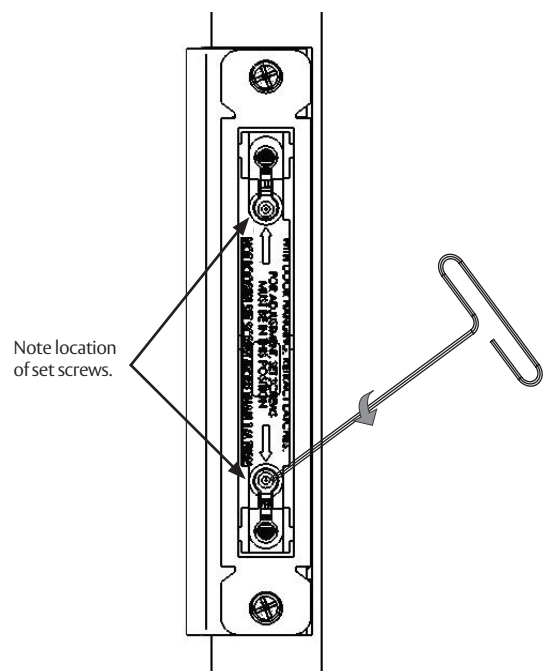

Figure 19
4. Using supplied 1/8" Allen wrench, loosen set screw 1/4 turn maximum. This allows hex rods to rotate during latch bolt adjustment. (Figure 19)